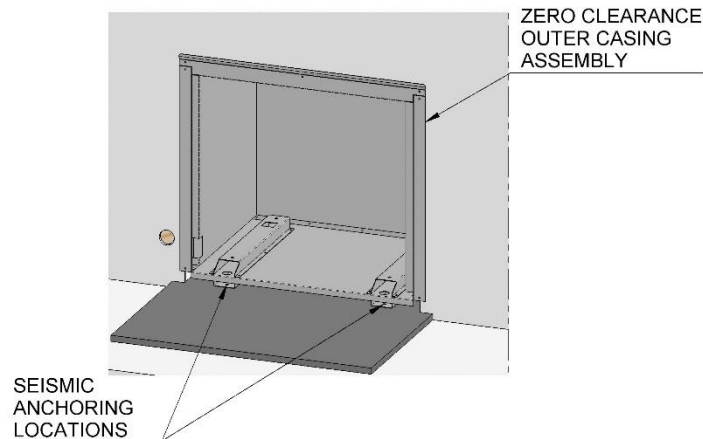

Fig. 9
- Q2. Ensure the unit is securely fixed using sleeve anchors or similar at the locations shown in the images on this page. (Fig. 9)